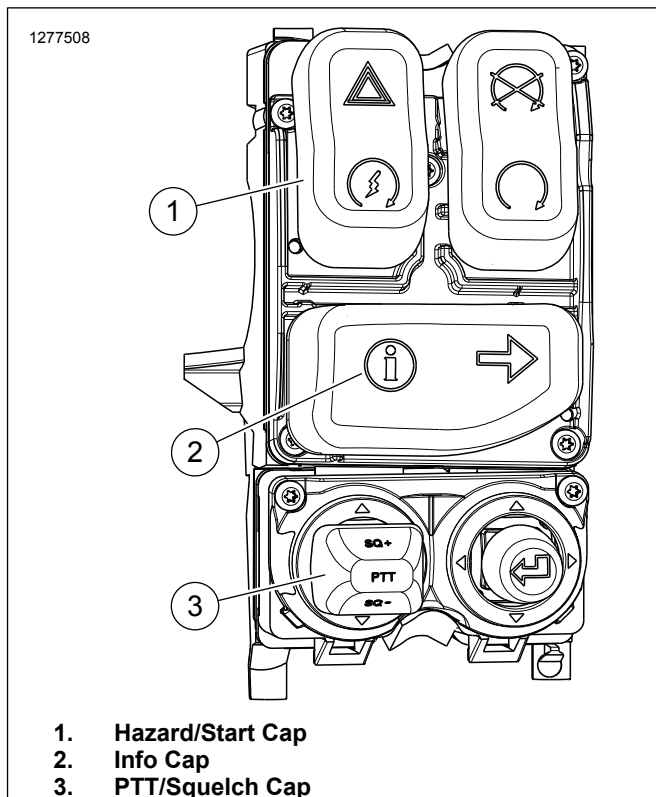

Figure 6. 2014 and Later Right Control (71500130C)
1. See Figure 6. Replace right hand control module with Part No. 71500130C. See service manual.
- b. See Figure 6. Remove Info cap (2) from new control module.
- b. See Figure 6. Remove Info cap (2) and Hazard/Start cap (1) from new control module.